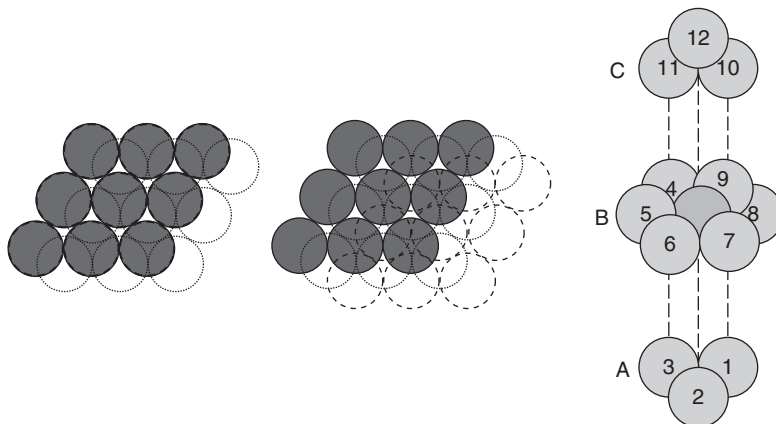

Figure 12 Cubic close packing (ABCABC...)
2. Alternately, if the atoms in the third layer are placed such that they are on the positions corresponding to the three voids in the A layer which were *not* covered by the atoms in the B layer, then the third layer is different from either A or B and is labeled C. If a fourth layer is placed then it repeats the A layer orientation, and succeeding layers repeat the pattern ABCABCA..., the resulting closest packed structure is called as **cubic close packing** or **ccp** (Figure 12). It is to be noted that only the fcc structure is a close-packed lattice within the cubic system.